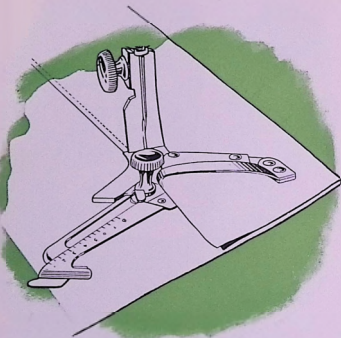

Fig. 44. Showing How Adjustable Hemmer is Used for Making Hems Wider than 15/16 Inch
1. Loosen thumb screw on hemmer, move scale to right as far as it will go, then swing it toward you, as shown in Fig. 44, and tighten thumb screw.
3. Place fold under extension at right of hemmer and edge into folder, as shown in Fig. 44.